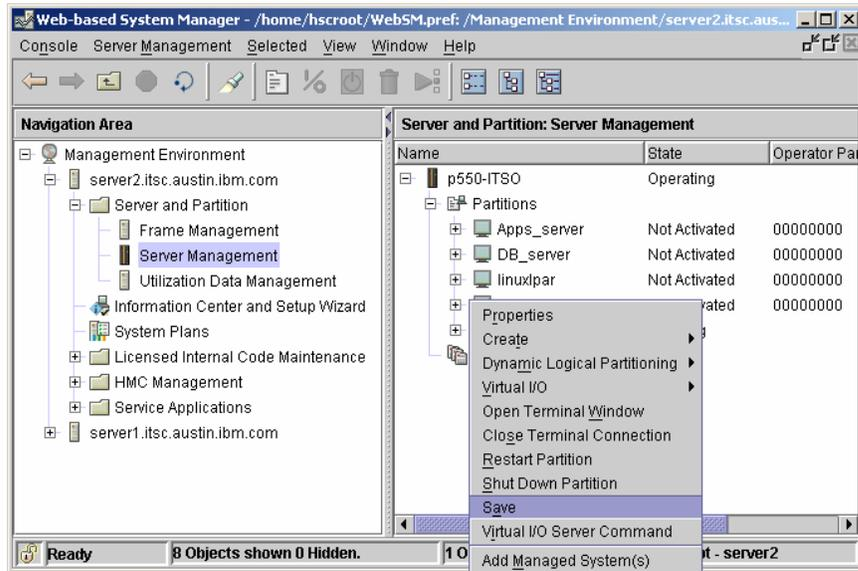

Figure 5-8 Save profile
- Remember to update the profiles of both partitions for the change to be reflected across restarts of the partitions. Alternatively, use the **Save** option to save the changes to a new profile. See Figure 5-8.